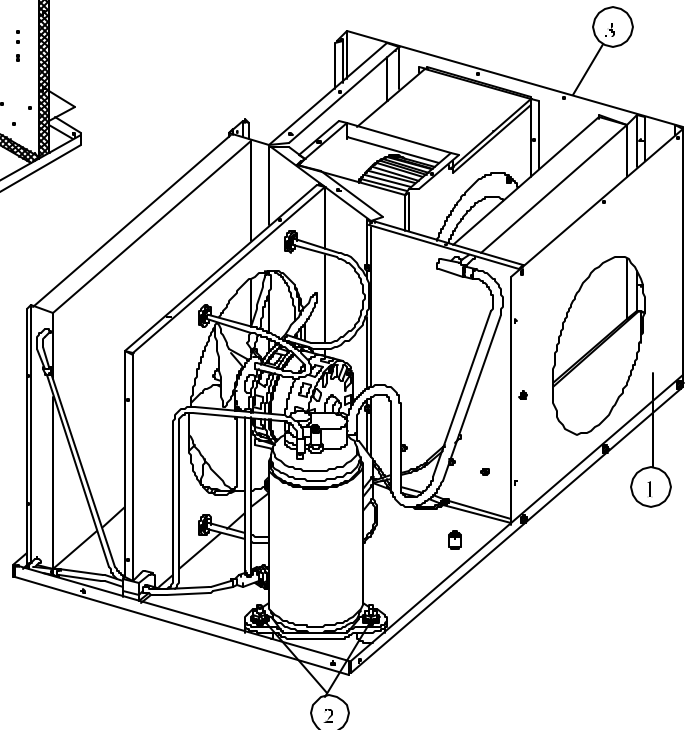

FIGURE 4
2. Remove four screws from blower end panel. See Figure 4, #3.
10. Remove return air panel. See Figure 4, #1.
6. Remove mounting nuts. See Figure 4, #2.